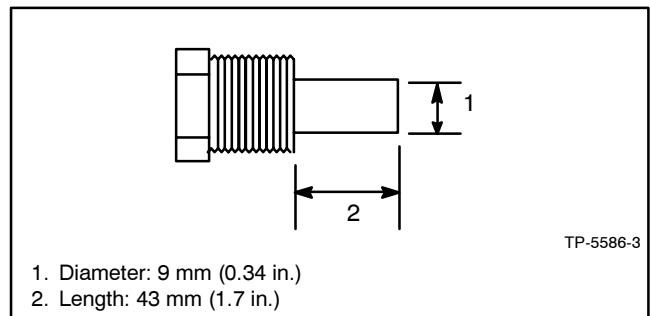

Figure 5-5 Anticorrosion Zinc Anode (Plug)
2. Remove the corrosion on the zinc anode. Replace the anode when the percent of the zinc remaining is less than 50% of the length and diameter shown in Figure 5-5.